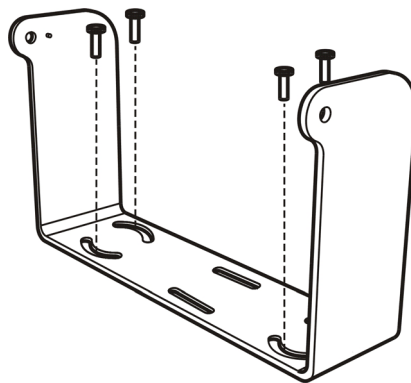

Figure 6 - ST222 Bracket Screw Positioning for Floor Mounting
- 2 The slots on the bracket will help obtain the best positioning. When working in environments characterized by strong vibrations, set the screws as close as possible to the bracket edges, see Figure 6.
- 3 Tighten the ST-222 bracket to the forklift using the screws and washers. In the absence of a surface area to mount to, the ST-247 Counter Bracket can be used to sandwich the forklift frame between the two brackets. The threaded hole for the set pin at the top of the ST-222 should be at user's left-hand side when facing in front of the terminal, see Figure 6 and Figure 7.